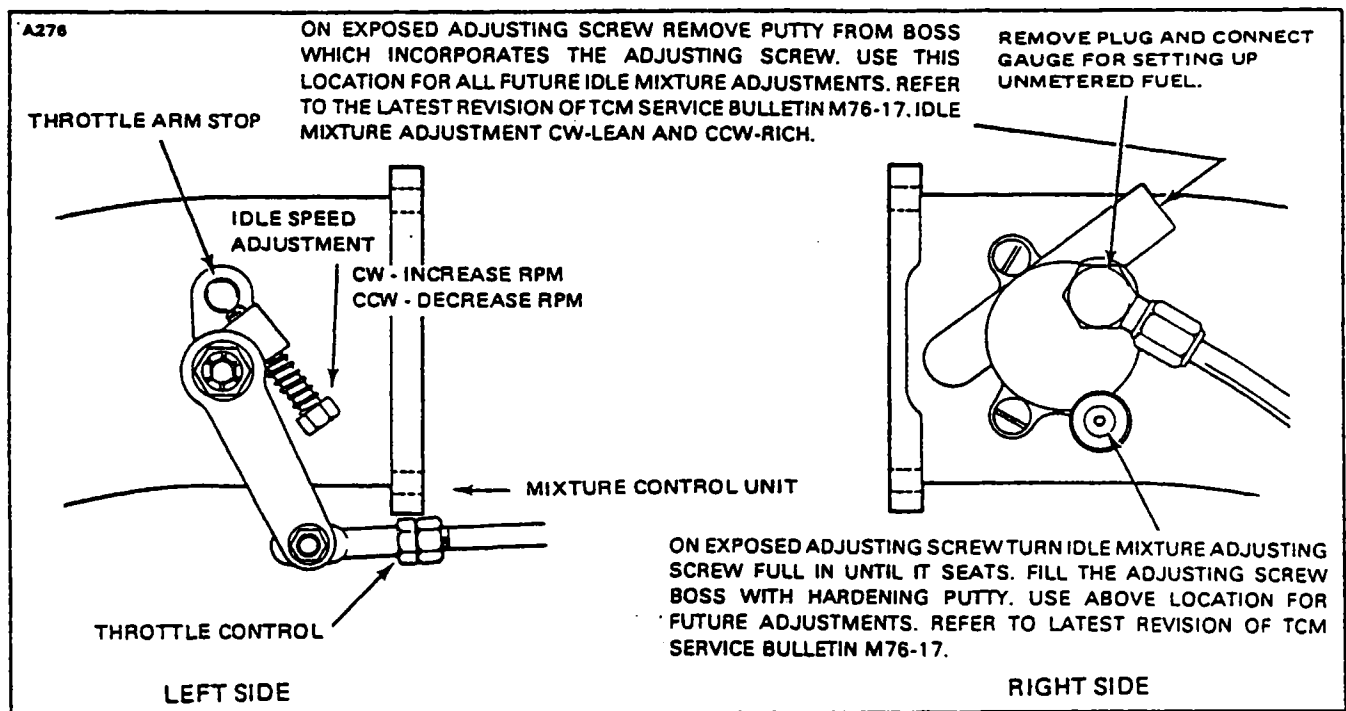

Figure 8-34. Idle Speed and Mixture Adjustment Points
1. Remove the cap from the tee fitting on the right side of the throttle body. (Refer to Figure 8-34.)
1. Back off the idle speed adjusting screw two turns. (Refer to Figure 8-34.)
e. Check and Adjustment of Idle Mixture: (Refer to Figure 8-34.)
f. Check and Adjustment of Idle Speed: (Refer to Figure 8-34.)